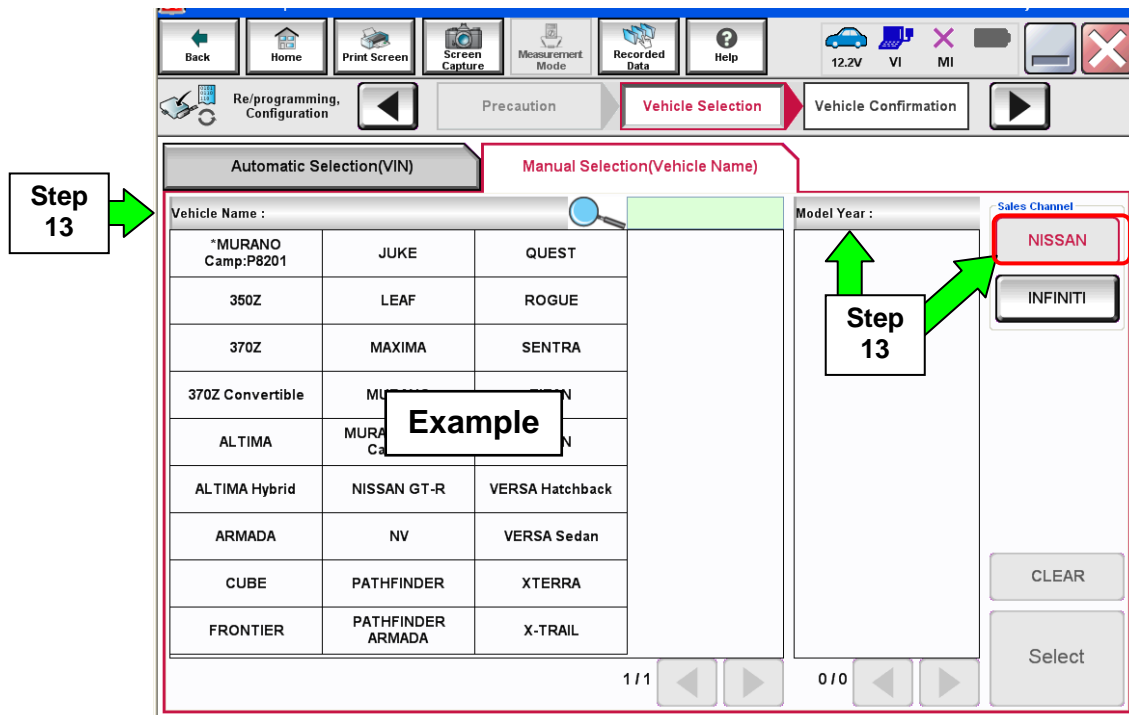

Figure 4
- If the screen in Figure 4 does not display, skip to step 14.